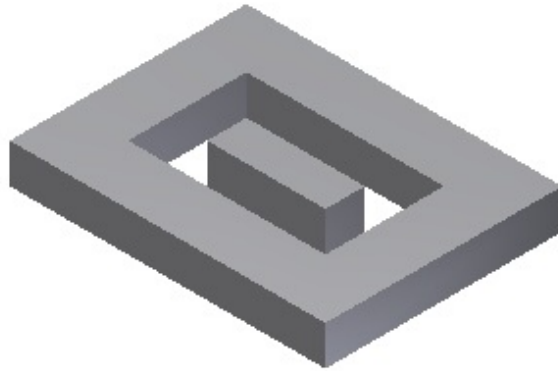

Figure 14-40 *Assembly after applying the constraints*
12. Close the **Place Constraint** dialog box. The assembly after applying the constraints is shown in Figure 14-40. Notice the change in the size of the Inner Plate.